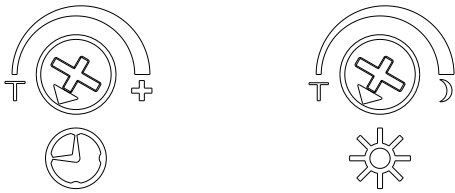

FIGURE 14
(1) TEST MODE
- Turn the Time control and the Light control fully anti-clockwise to the T (Test) position. (FIGURE 14).